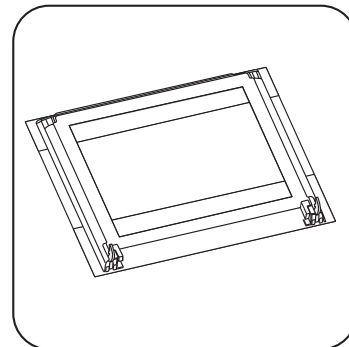

Figure 31: Place door on soft surface
4. Put the door on a soft cloth on a stable surface (Figure 31).